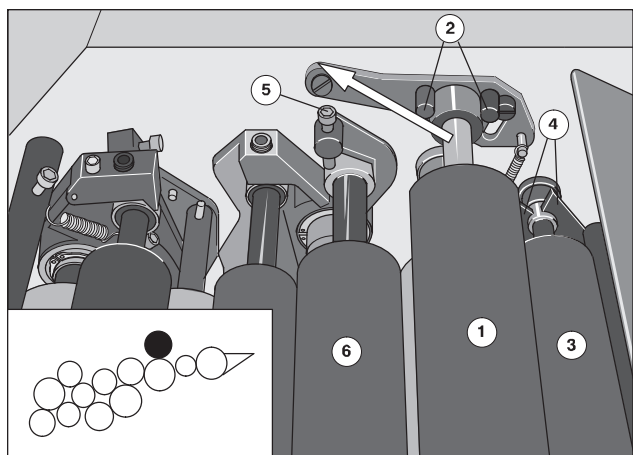

Fig. 24 Removing the rider roller
1. Pull out the rider roller (Fig. 24/1) in the direction of the arrow under the locking bolt (Fig. 24/2).
1. Pull the ink vibrator (Fig. 24/3) upwards out of the retainers (Fig. 24/4) on both sides at the journal.
1. Press the lever on D.S. (Fig. 24/5) and O.S. towards the ink fountain.
2. Remove the 1st ink transfer roller (Fig. 24/6).